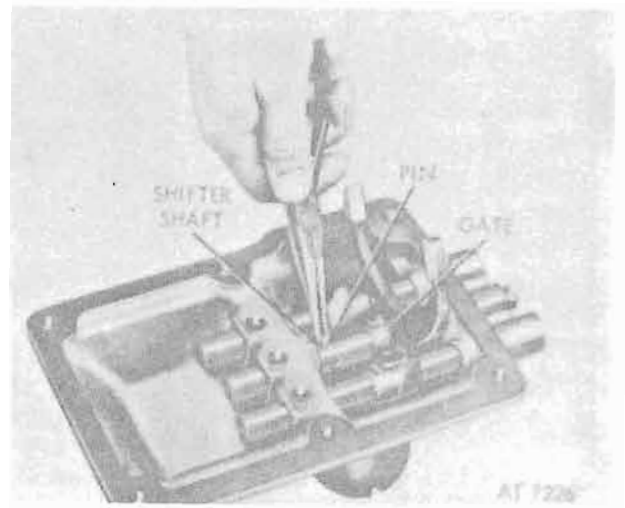

Figure 8-93. Shifter shaft interlock pin.
f. Remove interlock pin from shifter shaft (fig. 8-93).
g. Drive shifter shaft from housing and remove gate (fig. 8-93).
k. Depress detent spring and ball as described in e above. Slide third- and fourth-speed shifter shaft rearward and install interlock pin. Refer to figure 8-93.